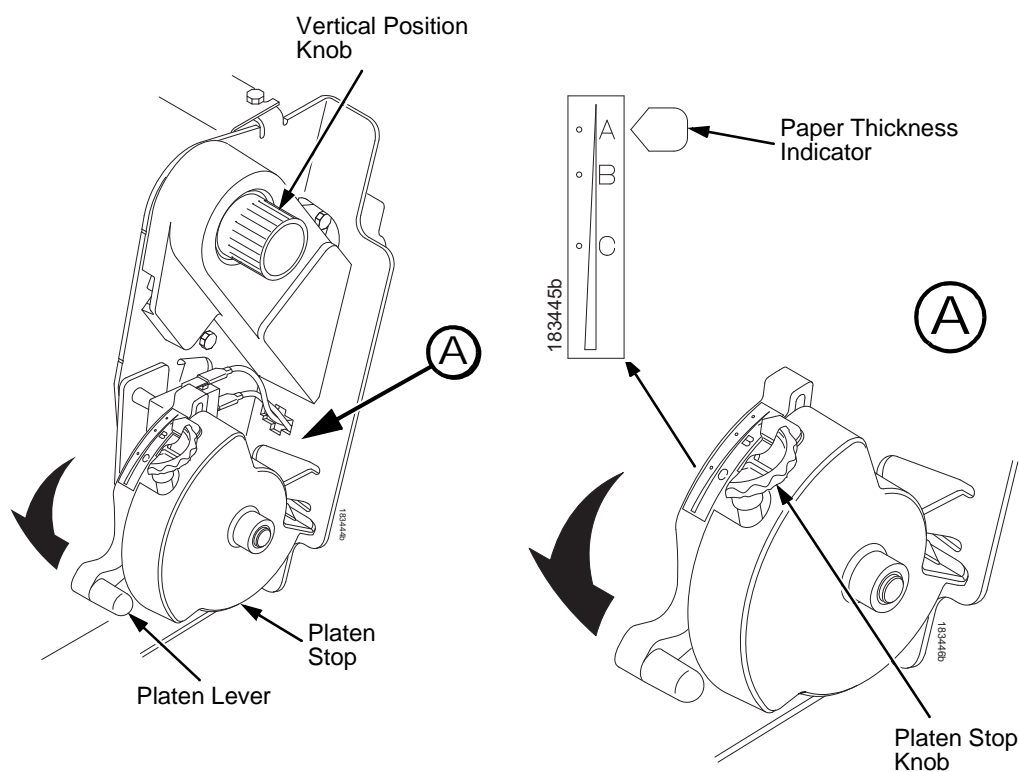

Figure 16. Setting the Platen Lever
9. Turn the platen stop knob clockwise or counterclockwise to match the paper thickness (A-B-C scale corresponds approximately to 1-, 3-, and 6 part paper thickness). See Figure 16.